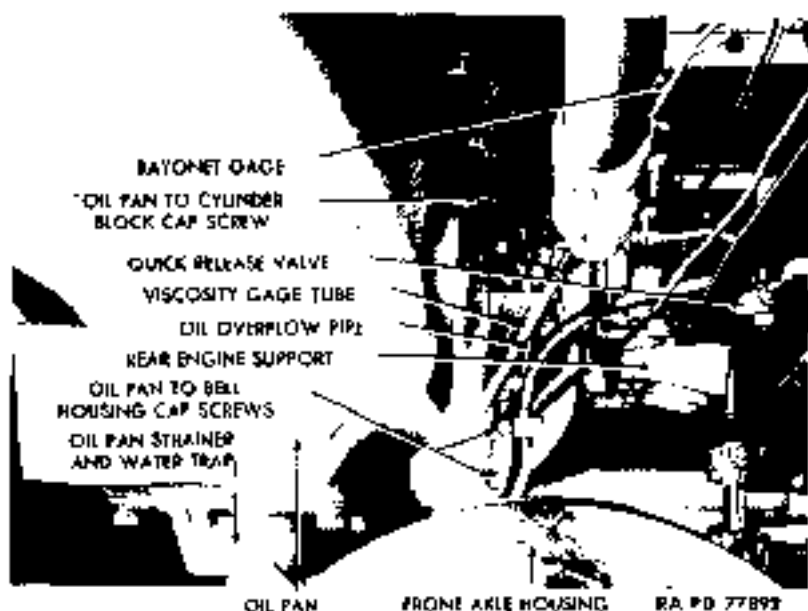
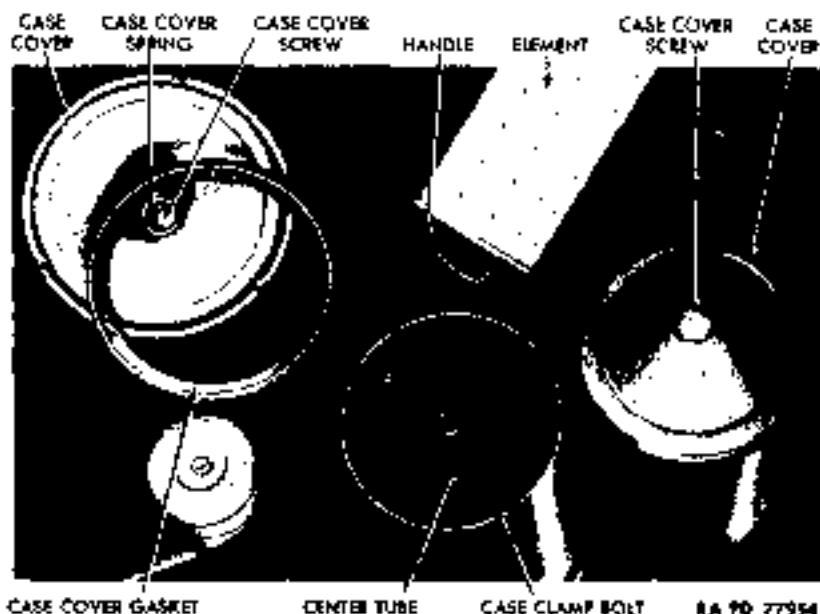
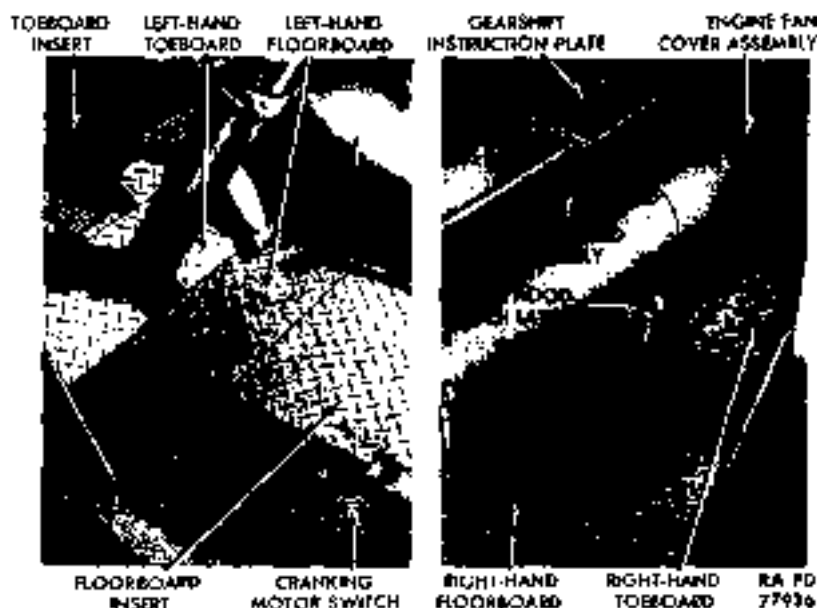

Figure 16 — Oil Pan Installed
Figure 17 — Oil Filters Partially Disassembled
Figure 19 - Floor Boards and Engine Hood
- (1) **REMOVE ENGINE HOOD** (fig. 19) (par. 48).
- (2) **REMOVE RIGHT-HAND FLOOR BOARD** (fig. 19). Remove the six screws and lock washers which attach floor board to cab, and lift floor board from cab.
(7) **INSTALL RIGHT-HAND FLOOR BOARD** (fig. 19). Position floor board in cab, and install the six lock washers and screws.
(8) **INSTALL ENGINE HOOD** (fig. 19) (par. 50).
(1) **DRAIN OIL** (fig. 16). Remove drain plug from center of oil pan strainer and water trap, and remove drain plug from rear of oil pan.
(2) **REMOVE STRAINER AND WATER TRAP** (fig. 16). Remove six cap screws and lock washers. Lift strainer, water trap, and gasket from oil pan.
(5) **INSTALL STRAINER AND WATER TRAP** (fig. 16). Inspect gasket, and replace if torn or crushed. Position serviceable gasket, strainer, and water trap assembly in oil pan. Install the six lock washers and cap screws.
(1) **REMOVE BAYONET GAGE.** Remove floor board insert (fig. 19), and pull bayonet gage (fig. 16) from its boss in oil pan.
(2) **DRAIN ENGINE OIL** (fig. 16). Remove drain plug and gasket from oil pan strainer and water trap. Remove drain plug and gasket from rear of oil pan.
(3) **DISCONNECT OIL OVERFLOW PIPE AND VISCOMETER GAGE TUBE** (fig. 16). Lines run from oil filter fitting on left side of oil pan. Unscrew both from fitting.
(4) **REMOVE OIL-PAN-TO-BELL-HOUSING CAP SCREWS** (fig. 16). Three are located on each side and one at lower center, each installed with a lock washer. Remove all.
(5) **REMOVE OIL-PAN-TO-CYLINDER-BLOCK CAP SCREWS** (fig. 16). There are 26 screws, each with a lock washer. Remove all screws.
(6) **REMOVE OIL PAN AND GASKETS** (fig. 16). Lower oil pan to floor, and remove the two side gaskets and front cork. **CAUTION: Do not damage or attempt to remove cork from bell housing.**
(2) **PLACE OIL PAN IN POSITION** (fig. 16). Position oil pan, using care to keep from dislodging gaskets, and install to crankcase with two cylinder block cap screws and lock washers. Tighten screws only fingertight because their function is to hold oil pan in an approximately correct position.
(3) **INSTALL OIL-PAN-TO-BELL-HOUSING CAP SCREWS** (fig. 16). Tighten the seven screws, each assembled with a lock washer, alternately and securely.
(4) **INSTALL OIL-PAN-TO-CYLINDER-BLOCK CAP SCREWS** (fig. 16). Tighten the 26 screws, each assembled with lock washer, alternately and securely.
(5) **CONNECT OIL OVERFLOW PIPE AND VISCOMETER GAGE TUBE** (fig. 16). These lines run from fitting on left side of oil pan. Tighten both securely.
(6) **INSTALL BAYONET OIL GAGE** (fig. 16). Insert gage into its boss on left side of oil pan.
(9) **INSTALL FLOOR BOARD INSERT** (fig. 19). Position insert on left-hand floor board, and tighten the two wing screws which clamp it in place.
(3) **REMOVE OIL FILTER ELEMENT** (fig. 17). Remove floor board insert (fig. 19), and unscrew oil filter case cover screw. Lift cover and gasket from case. Grasp handle on top of oil filter element, and pull element from case.
(4) **INSTALL OIL FILTER ELEMENT** (fig. 17). Insert oil filter element, handle end up, into oil filter case. Place oil filter case cover
(1) **REMOVE FLOOR BOARD INSERT** (fig. 19). Loosen the two wing screws which clamp insert in place, and lift insert from floor board.
(6) **INSTALL FLOOR BOARD INSERT** (fig. 19). Position insert on floor board, and secure with two wing screws.
e. **Remove Engine Hood** (fig. 19). Remove the three screws, flat washers, and lock washers which secure left-hand side of hood to floor board frame. Disengage the two latches on right-hand side of hood.
f. **Remove Toeboards and Floor Boards** (fig. 19). Remove the 20 screws, 4 flat washers, 4 toothed lock washers, and 9 lock washers which secure toeboards and floor boards to cab frame. Lift out toeboards and floor boards.